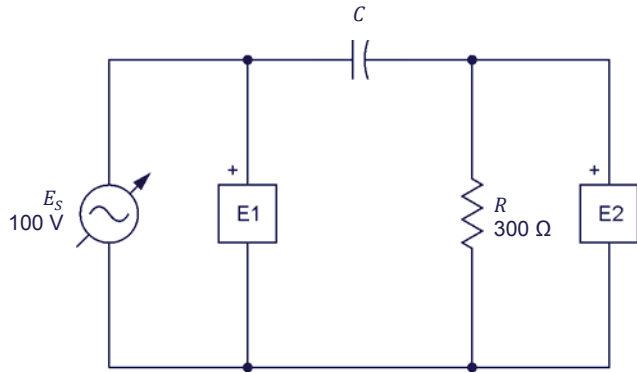

Figure 1-16. AC circuit with a resistor and a capacitor.
19. Modify the circuit so that it is as shown in Figure 1-16 (replace the inductor by a capacitor). This circuit contains a resistor R and a capacitor C . Capacitors are studied in the next unit of this manual.
The value of capacitor C in the circuit of Figure 1-16 is referred to as the capacitance and is expressed in microfarads (μF). The capacitance value to be used depends on the frequency of the ac power source as is indicated in Table 1-3.